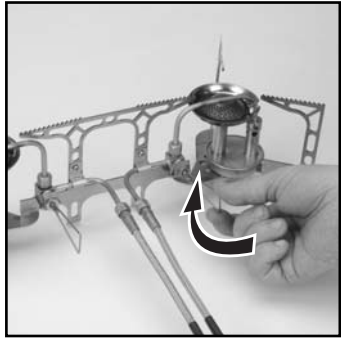

FIG. 29
- After the first burner exhibits a proper flame, turn the first flame adjuster to “LOW” (Fig. 29).